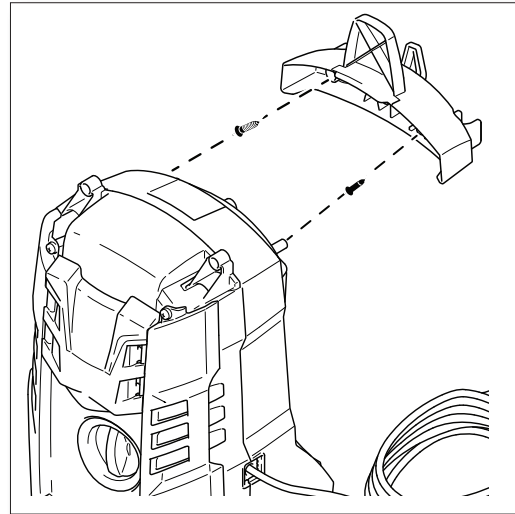

Fig. 2
- Slide the hose hook onto the back side of the washer when facing it. This requires two screws. **(Fig. 2)**